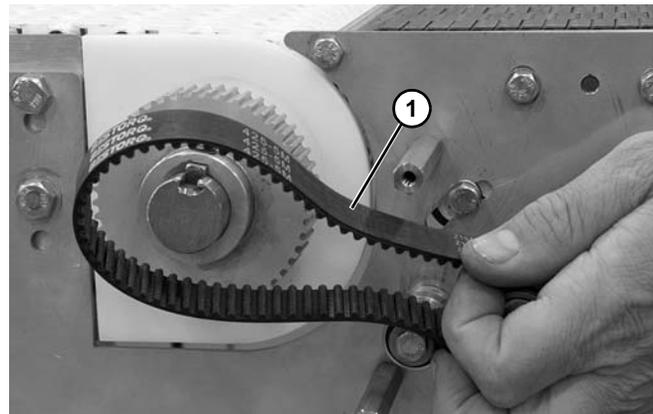

Figure 56
3. Remove timing belt (Figure 56, item 1).